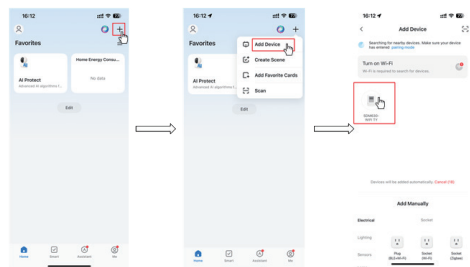

Figure 3
Click the "+" icon at the top right corner of the APP's homepage. Select "Add Device". Tap the corresponding meter icon to enter the manual addition process (as shown in Figure 3).
- Step 4: Push up the back-end clip to lock the meter firmly onto the DIN rail (see Figure 3).